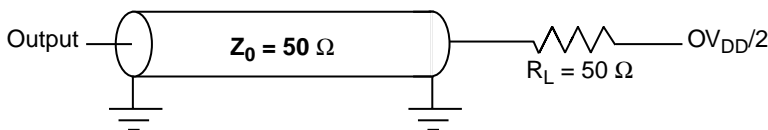
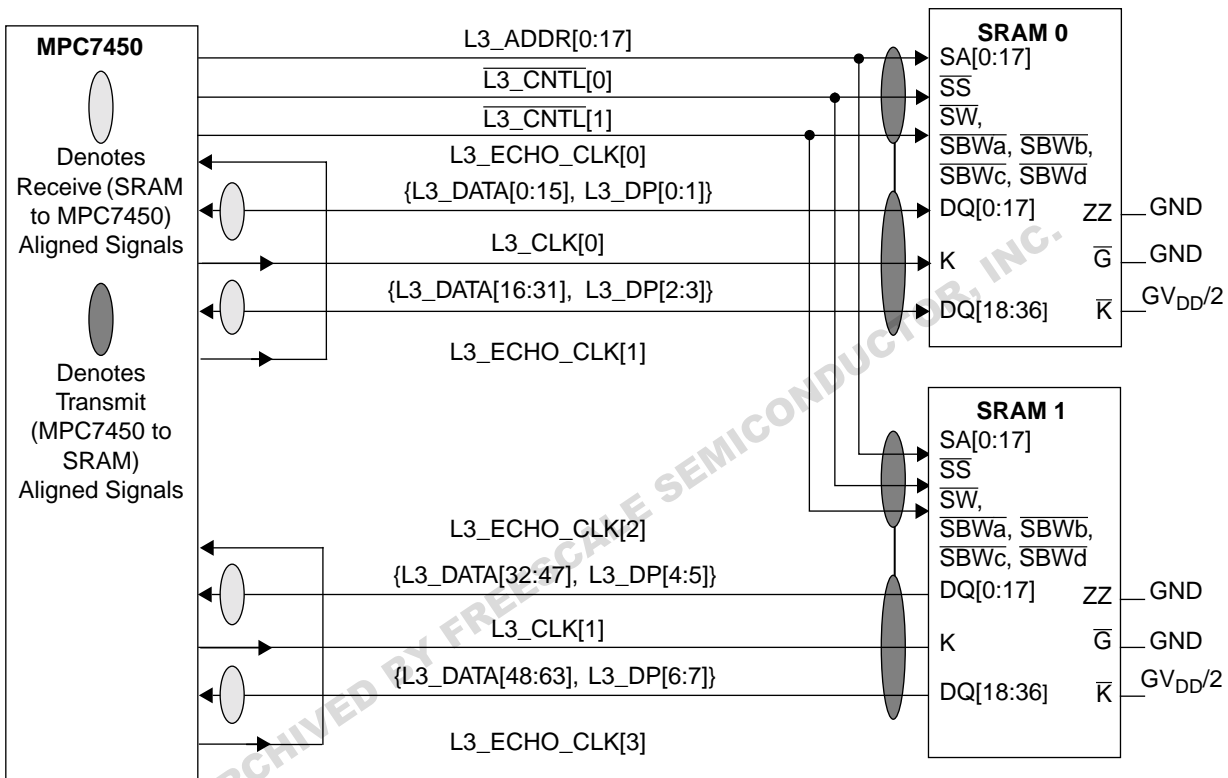
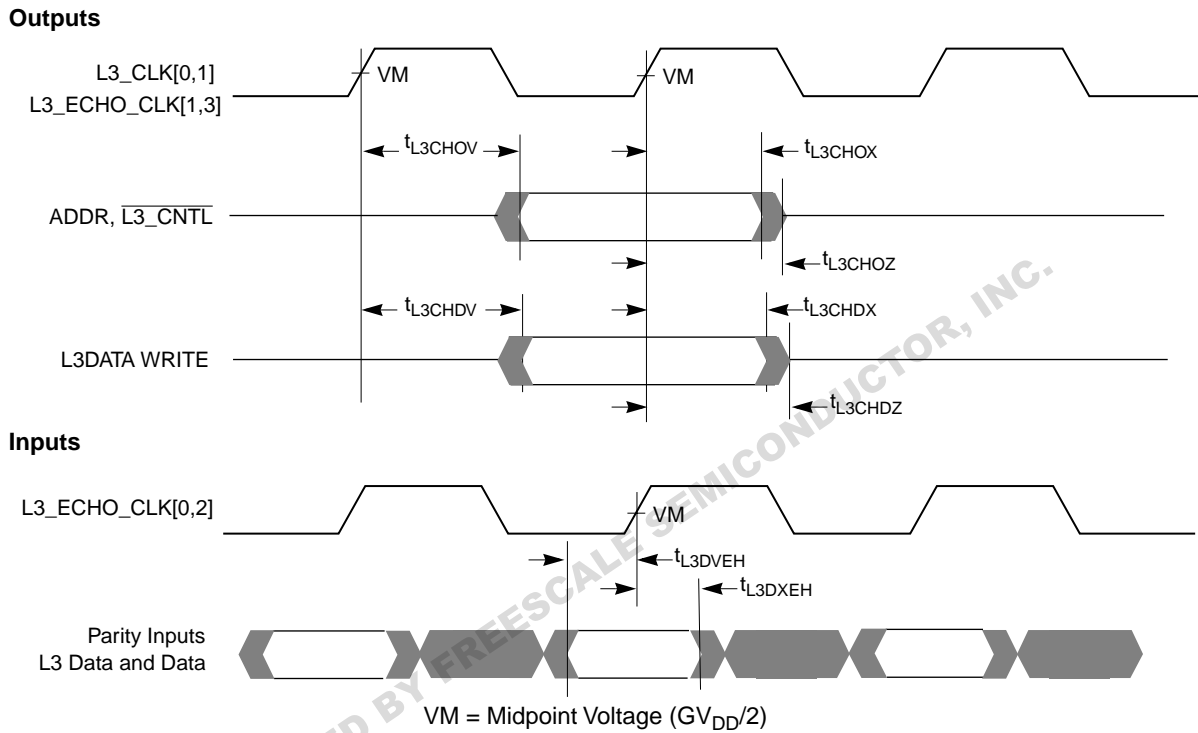

Figure 8. AC Test Load for the L3 Interface
Figure 11. Typical Synchronous 1-MByte L3 Cache Late Write or PB2 Interface
Figure 12. L3 Bus Timing Diagrams for Late Write or PB2 SRAMs
- For high speed operations, L3 interface address and control signals should be a “T” with minimal stubs to the two loads; data and clock signals should be point-to-point to their single load. Figure 8 shows the AC test load for the L3 interface.
More specifically, certain signals within groups should be delay-matched with others in the same group while intergroup routing is less critical. Only the address and control signals are common to both SRAMs and additional timing margin is available for these signals. The double-clocked data signals are grouped with individual clocks as shown in Figure 9 or Figure 11, depending on the type of SRAM. For example, for the MSUG2 DDR SRAM (see Figure 9); L3DATA[0:31], L3DP[0:3], and L3_CLK[0] form a closely coupled group of outputs from the MPC7450; while L3DATA[0:15], L3DP[0:1], and L3_ECHO_CLK[0] form a closely coupled group of inputs.
Table 12 provides the L3 bus interface AC timing specifications for the configuration as shown in Figure 9, assuming the timing relationships shown in Figure 10 and the loading shown in Figure 8.
5. All output specifications are measured from the midpoint voltage of the rising (or for DDR write data, also the falling) edge of L3_CLK to the midpoint of the signal in question. The output timings are measured at the pins. All output timings assume a purely resistive 50- Ω load (see Figure 8).
When using PB2 or Late Write SRAMs at the L3 interface, the parts should be connected as shown in Figure 11. These SRAMs are synchronous to the MPC7450; one L3_CLK n signal is output to each SRAM to latch address, control, and write data. Read data is launched by the SRAM synchronous to the delayed L3_CLK n signal it received. The MPC7450 needs a copy of that delayed clock which launched the SRAM read data to know when the returning data will be valid. Therefore, L3_ECHO_CLK1 and L3_ECHO_CLK3 must be routed halfway to the SRAMs and then returned to the MPC7450 inputs L3_ECHO_CLK0 and L3_ECHO_CLK2 respectively. Thus, L3_ECHO_CLK0 and L3_ECHO_CLK2 are phase-aligned with the input clock received at the SRAMs. The MPC7450 will latch the incoming data on the rising edge of L3_ECHO_CLK0 and L3_ECHO_CLK2.
Table 13 provides the L3 bus interface AC timing specifications for the configuration shown in Figure 11, assuming the timing relationships of Figure 12 and the loading of Figure 8.
Figure 11 shows the typical connection diagram for the MPC7450 interfaced to PB2 SRAMs, such as the Motorola MCM63R737, or Late Write SRAMs, such as the Motorola MCM63R836A.
Figure 12 shows the L3 bus timing diagrams for the MPC7450 interfaced to PB2 or Late Write SRAMs.